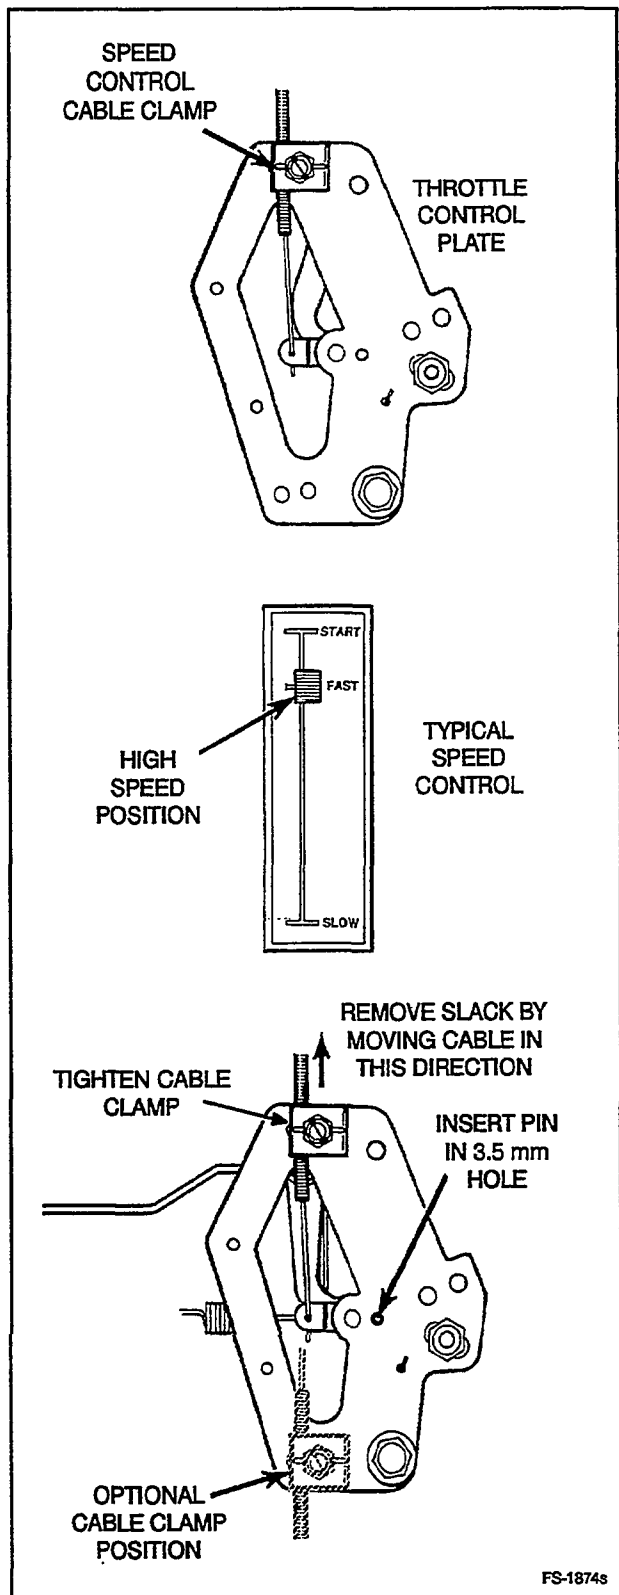

FIGURE 5. SPEED ADJUSTMENT
2. Loosen the speed control cable clamp located on your engine's throttle control plate. (See Figure 5.)